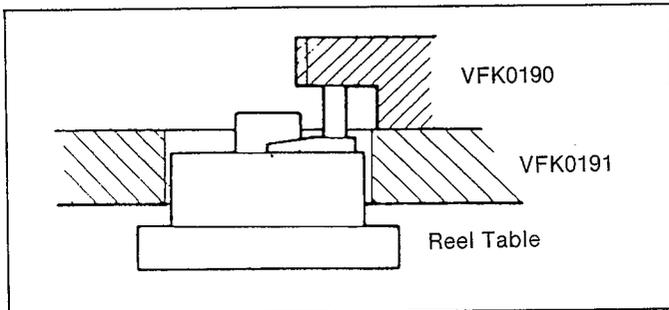

Fig. M7 Adjustment of Reel Table Height-(2)
4. Measure the meter indication of top surface or reel table as shown in Fig. M7. And then perform the same measurement and confirmation for the other reel table.